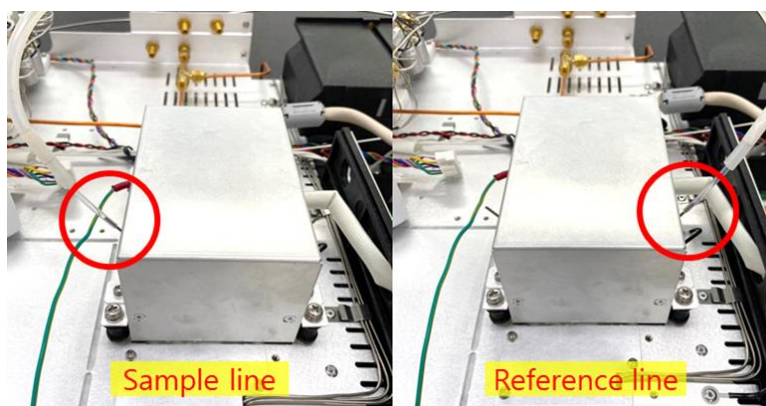

Figure 18. Where to measure the actual flow for TCD flow calibration
3. Connect the digital flowmeter to reference line of TCD detector (indicated in Figure 18) and check the actual flow rate of 'Reference'.
9. Connect the digital flowmeter to sample line of TCD detector (indicated in Figure 18) and check the actual flow rate of 'Sample'.